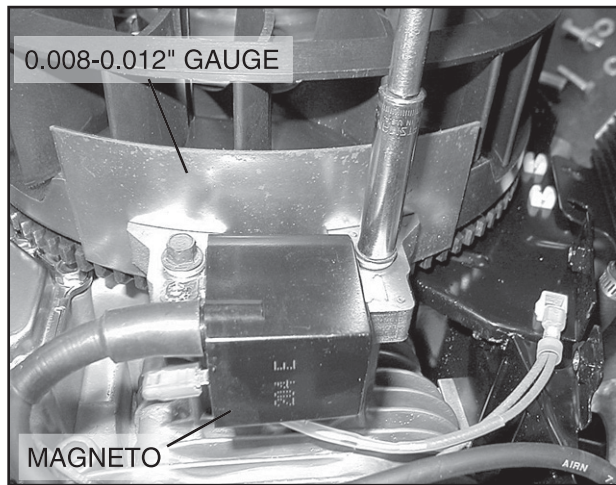

Figure 23. Setting Ignition Magneto (Armature) Air Gap
1. See Figure 23. Rotate the flywheel until the magnet is under the module (armature) laminations.